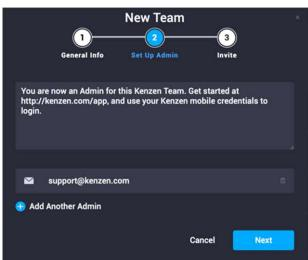

Figure 38: Add Admin Users
- Invite Administrators to the team by entering the new admin's email address. Select **Add Another Admin** to add additional email addresses (Figure 38).